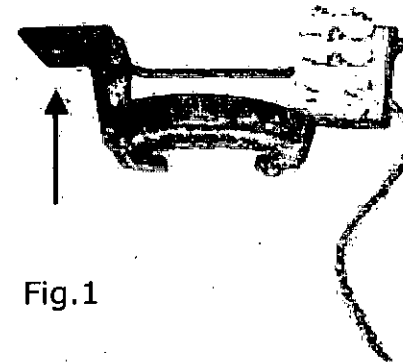

Fig.1
Secure the hanger bracket to ceiling beam or a suitable piece of timber inserted between the ceiling beams. Martec Pty Ltd recommends bracket be attached with two (2) long screws as supplied within the package. (See fig.1.)